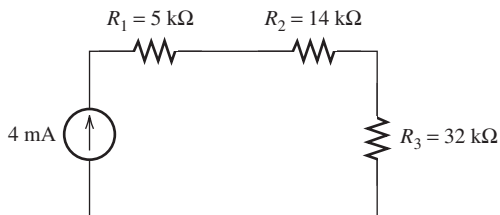

FIGURE P2.53 Circuit for Problem 2.53.
2.53 (H) Find the power P_1 , P_2 , and P_3 dissipated by all resistors in the circuit shown in Figure P2.53.